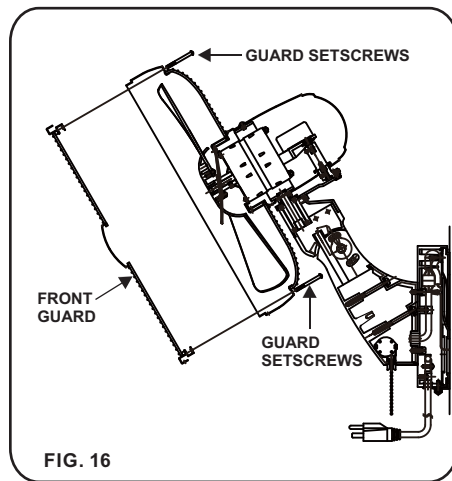

FIG. 16
3. If you need to disassemble the fan for any reason such as cleaning, please take off the two guard setscrews and to secure the screws after cleaning the blades. (Fig. 16)